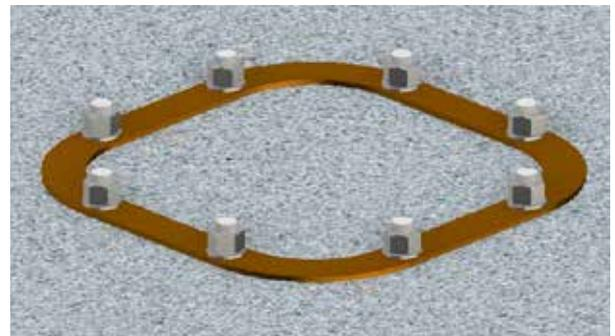

fig.21
3. Embed the frame prepared this way in the plinth casting making sure that the upper plate remains flush with the floor (fig. 21). Protect the threading of the bolts to prevent damage.